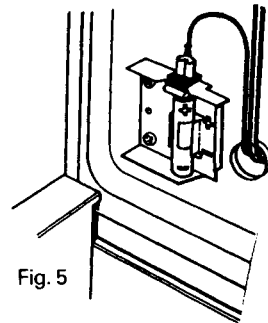

Fig. 5
1. The battery holder is located at the rear of the bottom storage compartment (see Fig. 5).
3. From inside the bottom compartment fit the 1 $\frac{1}{2}$  volt battery (see Fig. 5) ensuring it is fitted as indicated by the symbols on the battery holder.